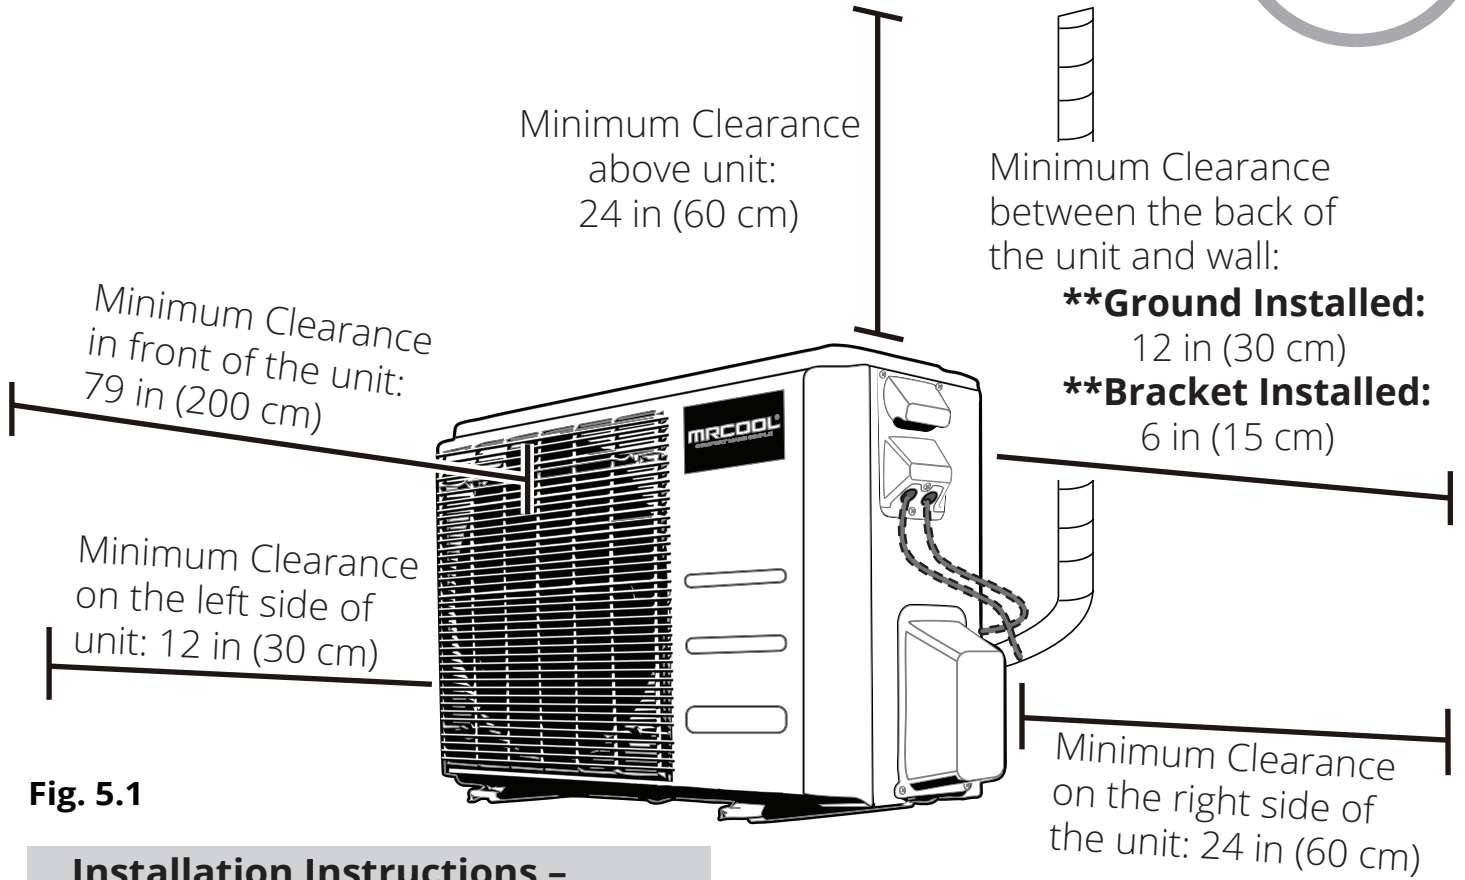

Fig. 5.1
- ☑ Meets all spatial requirements shown in the illustration above (Fig. 5.1)